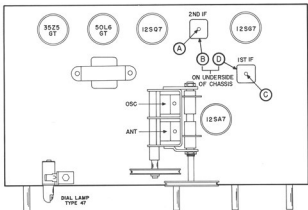

Fig. 7. Top View of Chassis Showing Location of Alignment Adjustments, Tubes and Dial Lamp
The dial lamp and tubes are accessible for replacement by removing the cabinet back. For types used and location, refer to Fig. 7.
- See Figs. 7 and 8 for location of alignment adjustments.